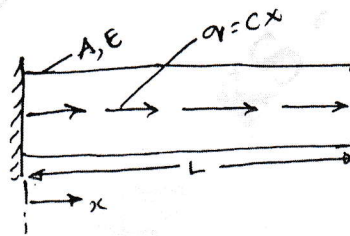

Fig Q1(b)
- b. A bar of length L , cross section area A and modulus of elasticity E , is subjected to distributed load $q = CX$, where C is constant as in Fig Q1(b). Determine the displacement of bar at end using R-R method.